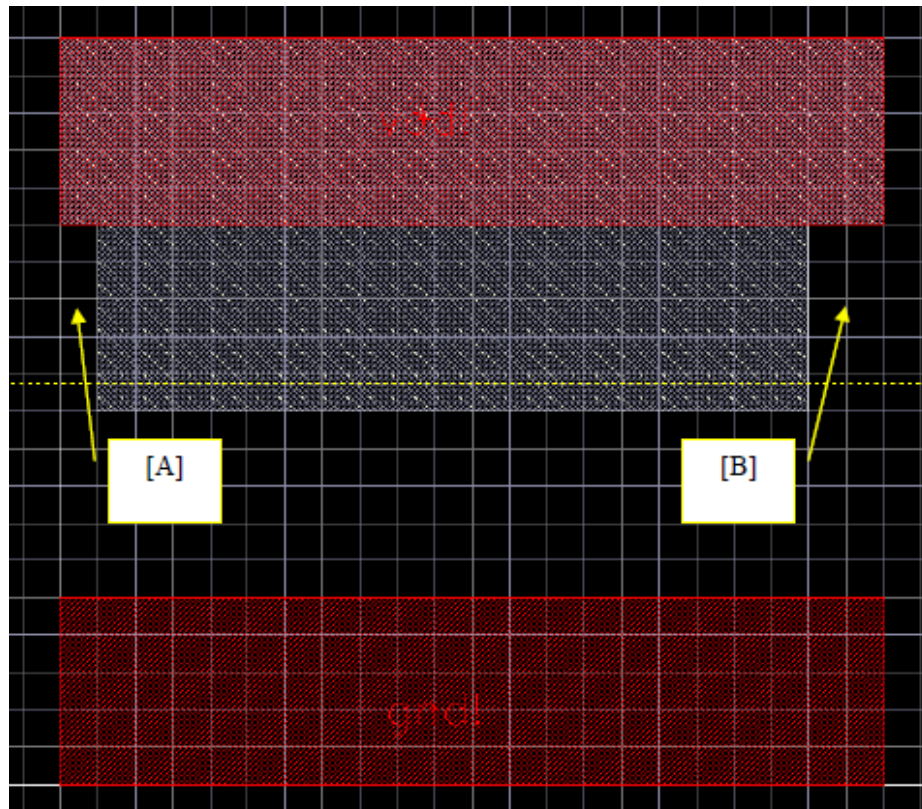

Figure 3 TUB, N-Field regions and VDD, GND Strapping (For Clarity the Cell Height is Compressed)
15. As shown in Figure 3, the TUB and N-Field layer regions cover the same area as the VDD strap; you must also maintain a 4λ notch on the left [A], and an 8λ notch on the right [B] of the cell for the embedded feed-through track. VDD & GND straps extend the width of the cell. For clarity the cell height shown in not to scale Figure 3 and is compressed.